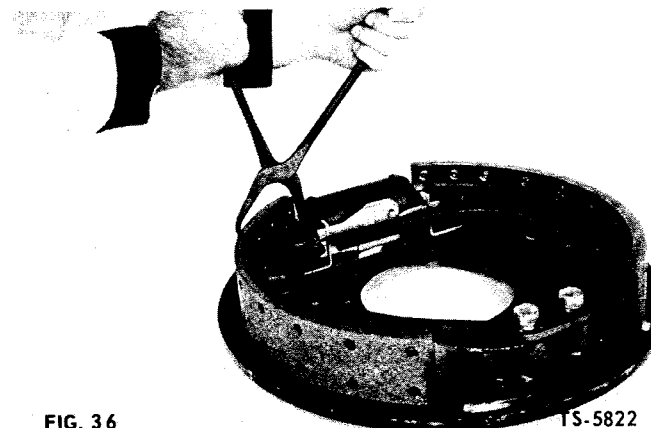

FIG. 36
2. Remove brake shoe return spring with brake spring pliers (Fig. 36).